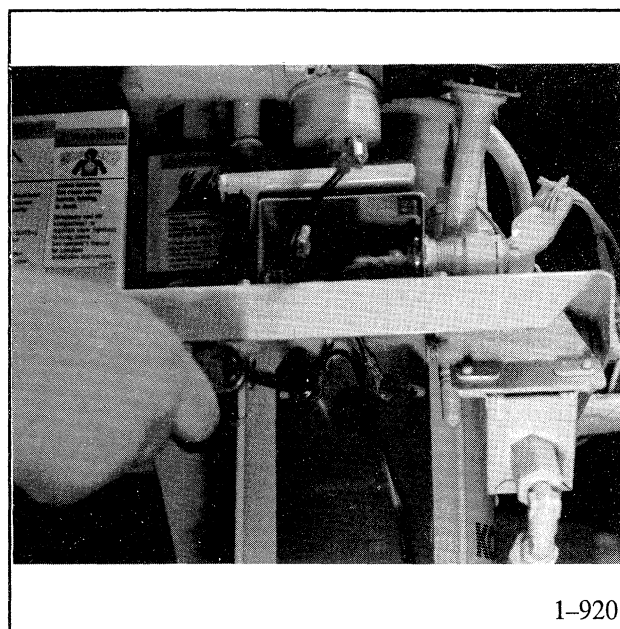

Figure 5-8. Disconnecting LO Ground Leads.
9. Disconnect LO ground leads (Neutral and Hazard ground) from stator shell as shown in Figure 5-8.